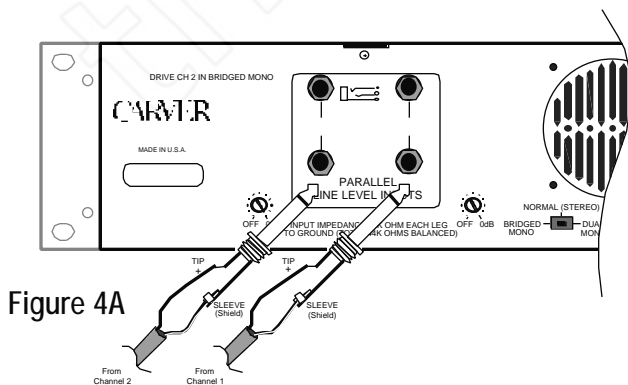

Figure 4A
U.S. Version: Use a 2-conductor (Tip-Sleeve) 1/4" phone plug. The tip of the plug carries the signal and the sleeve is ground. The ring connection in the jack is automatically grounded by the sleeve (see Figure 4A).